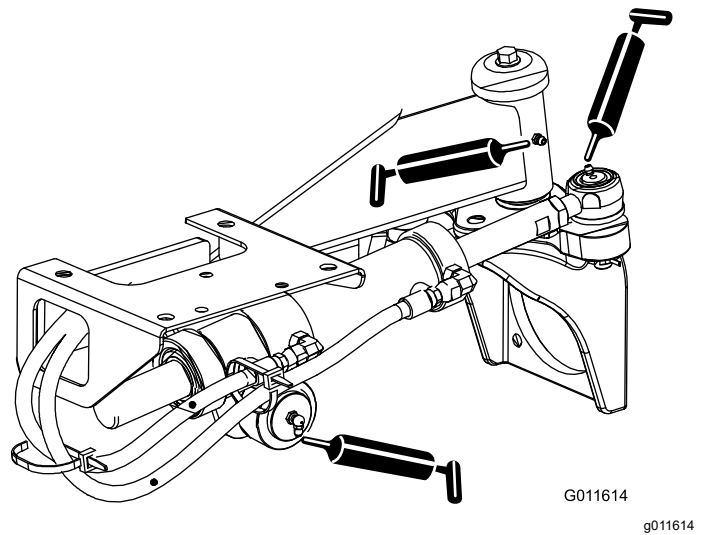

Figure 69
- Steering-cylinder ball joints (2) and rear axle (1)—Figure 69